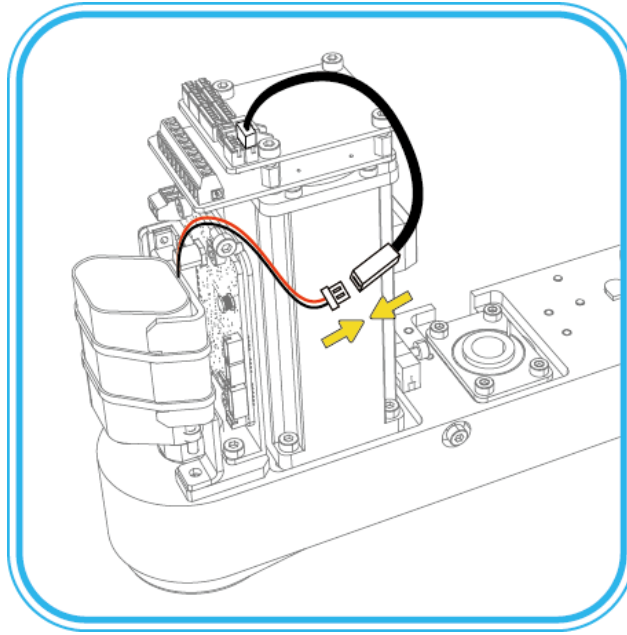

Figure 7.18 Connect the battery connector and battery adapter cable
10. Connect the battery connector to the other end of the battery adapter cable, as shown in Figure 7.18.